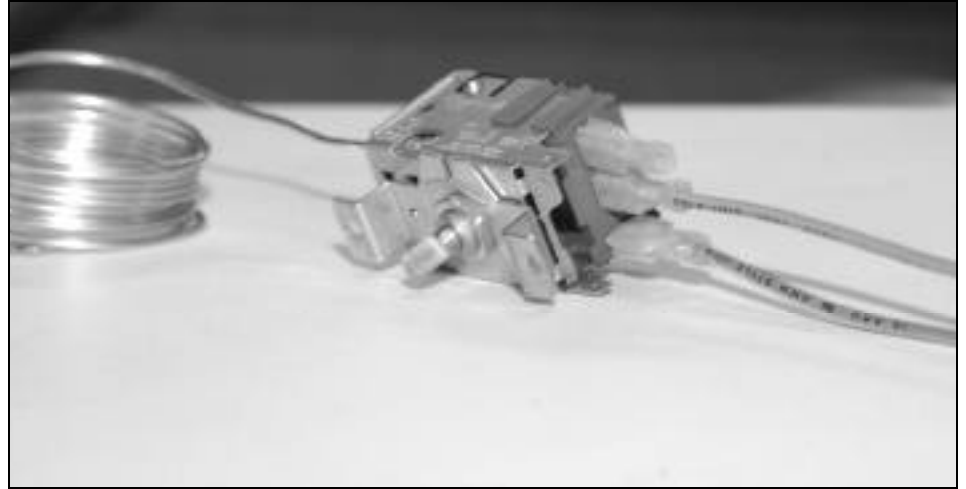

Figure 8. Temperature Control Leads
(See Figure 8).
- (See Figure 8 & 9).